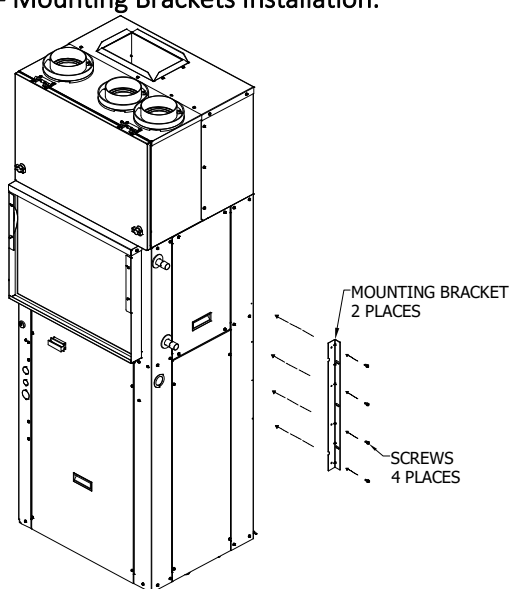

FIGURE 16 - Mounting Brackets Installation
7. Attach unit mounting brackets (2) as shown in **FIGURE 16 - Mounting Brackets Installation**.